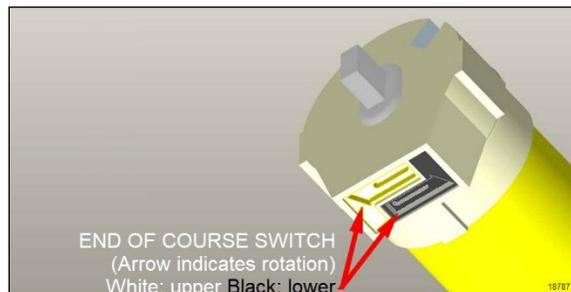

FIGURE 46: END OF COURSE SETTING SWITCHES
- When satisfied with the position, depress the end of course button on the sunshade. With a screwdriver. Release when you hear a click (Figure 46)